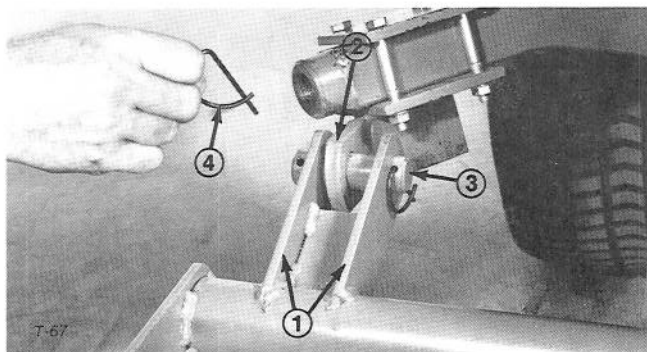

Figure 6
6. Locate mounting brackets on right side of hitch adapter on each side of push arm bracket, align holes and install pin (Fig. 6). Secure pin with spring pins (Fig. 6).